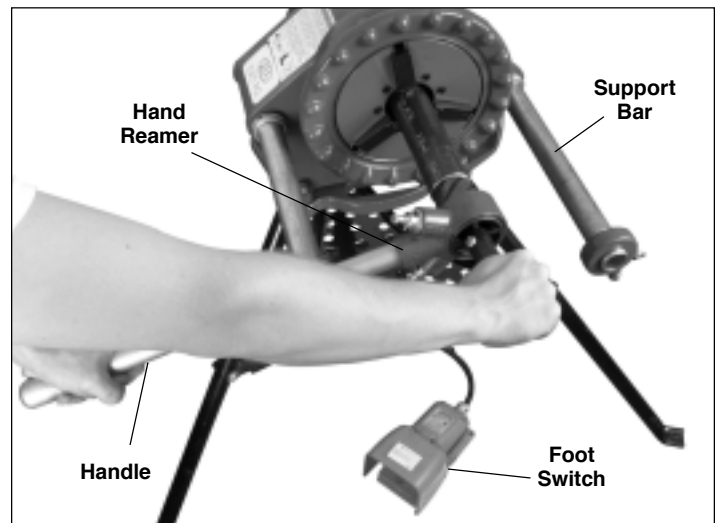

Figure 5
2. Insert reamer into end of pipe and hold firmly onto handle and handgrip (Figure 5).
3. Step on foot switch and push on reamer handgrip (Figure 5) with right hand to ream pipe.